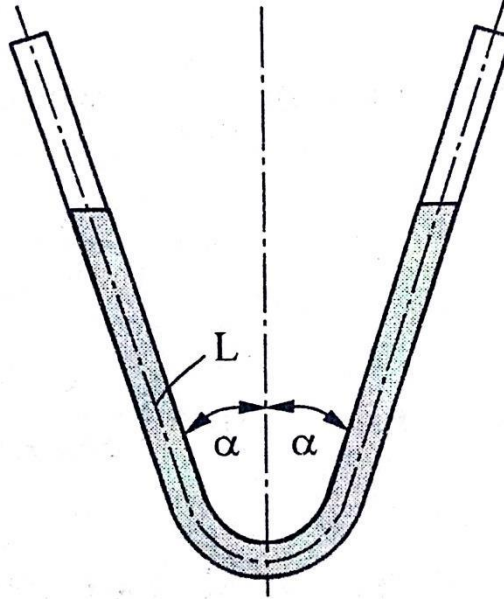

Figure.4
- Q4.b A block of circular section having a diameter d and mass m floats vertically in a liquid of mass density ρ . A small displacement is given vertically to the mass in downward direction and released. Find the time period of oscillations of the mass. (5)
- Q5.a. The piston of 45° Twin V-engine has strokes 125mm. The connecting rods driving a common crank has a length of 200mm. The mass of the reciprocating parts per cylinder is 1.2kg and the speed of the crank shaft is 2400 rpm. Determine the maximum and minimum magnitude of primary and secondary forces. (10)
- Q5.b A spring mass damper system, having undamped natural frequency of 100Hz and a damping constant 20N-s/m, is used as an accelerometer to measure the vibration of a machine operating at a speed of 3000 rpm. If the actual acceleration is 10m/s² and the recorded acceleration is 9m/s². Determine the mass and spring constant of the accelerometer. (10)
- Q6.a Explain why only a part of the unbalance force in reciprocating force is balanced by rotating mass. Derive resultant unbalance primary force if C% balancing is achieved. (6)
- Q6.b A machine component of mass 2.5kg vibrates in a viscous medium. Determine the damping coefficient when the dynamic excitation force of 25N results in a resonant amplitude of 20mm with a period of 0.1sec. if excitation frequency is 8Hz and if damper is removed what will be the amplitude of forced vibration (6)
Q6.c A V-tube of constant cross sectional area is filled with a liquid of total column length L (8) as shown in Figure 4 below. If both the arms are open to atmosphere, determine the natural frequency of oscillation of the liquid column.